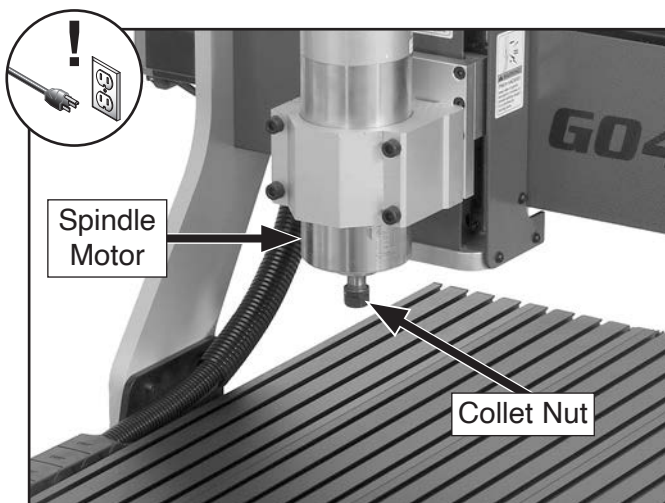

Figure 41. Location of spindle motor tooling components.
2. Loosen and remove collet nut on spindle motor (see **Figure 41**), then remove ER11 collet from spindle.